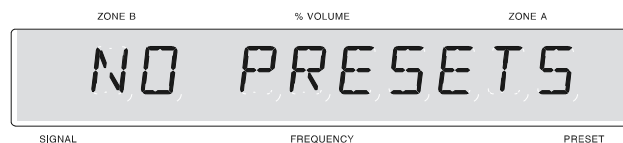

Figure 27
*Note: If no FM presets have been assigned, when a PRESET Up or Down pushbutton is pressed, the front panel display will indicate NO PRESETS. Refer to figure 27.*